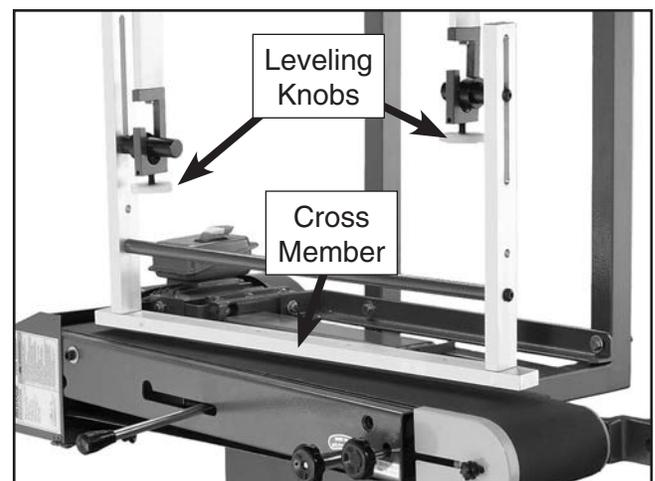

Figure 13. Adjusting the cross member parallel with the sanding belt.
1. Adjust the height adjustment arm so the cross member is parallel with the sanding belt as shown in **Figure 13**.
*Note—Notice how the swing arm shafts in **Figure 13** are different distances from the fretboard (to create a compound radius), but the fretboard is parallel with the sanding belt.*